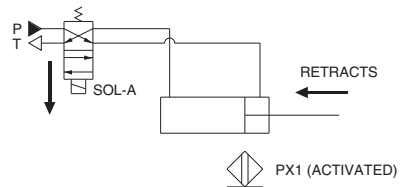

Figure 2-16. One-cycle reciprocation of a cylinder.
As an example, Figure 2-16 shows a ladder diagram providing one-cycle reciprocation of a hydraulic cylinder. One-cycle reciprocation means that when started by an operator, the cylinder rod extends fully, automatically retracts without attention of the operator, and stops, which makes a complete cycle.
- a. In the normal condition of the system, the cylinder rod is retracted, as illustrated in Figure 2-16 a). Relay coil CR1 is deactivated because an open circuit condition exists on ladder rung 1 by the open condition of N.O. contacts PB1 and CR1-A. Therefore, directional valve solenoid SOL-A is de-energized and the valve is in the crossed-arrows condition.
- b. When pushbutton PB1 is pressed, as illustrated in Figure 2-16 b), the current flows from the + terminal of the power supply, through contacts PB1 and PX1 in rung 1, to energize relay coil CR1. This closes relay contacts CR1-A and CR1-B. Contact CR1-B in rung 2 causes solenoid SOL-A and lamp L1 to energize. This causes the directional valve to shift to the straight-arrows position and extend the cylinder rod. Contact CR1-A in rung 1 provides another path in parallel with contact PB1 for the current to flow to relay coil CR1, and is called a **holding**, or **seal-in** contact.
- c. When pushbutton PB1 is released, as illustrated in Figure 2-16 c), the current continues to flow to relay coil CR1 through the alternate path provided by holding contact CR1-A being closed. Therefore, solenoid SOL-A stays energized and the cylinder rod continues to extend to full stroke.
- d. When the cylinder rod becomes fully extended, magnetic proximity switch LS1 is activated by the magnetic piston inside the cylinder. This is illustrated in Figure 2-16 d). This opens N.C. contact PX1 in rung 1, de-energizing relay coil CR1. This causes relay contact CR1-B in rung 2 to open, de-energizing solenoid SOL-A and lamp L1. This causes the directional valve to return to the crossed-arrows condition and retract the cylinder. When the cylinder rod is fully retracted, it stops and waits for the operator to start another cycle.